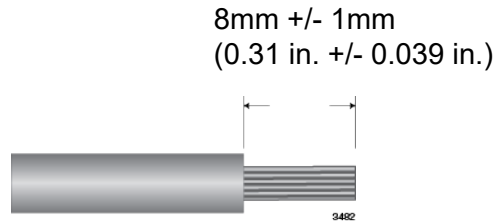

Figure 55. Stripped Wire
4. With a 14-gauge wire-stripping tool, strip the three wires in the tray cable coming from the DC input power source to $8\text{mm} \pm 1\text{mm}$ ($0.31\text{ in.} \pm 0.039\text{ in.}$), as shown in Figure 55 on page 113.